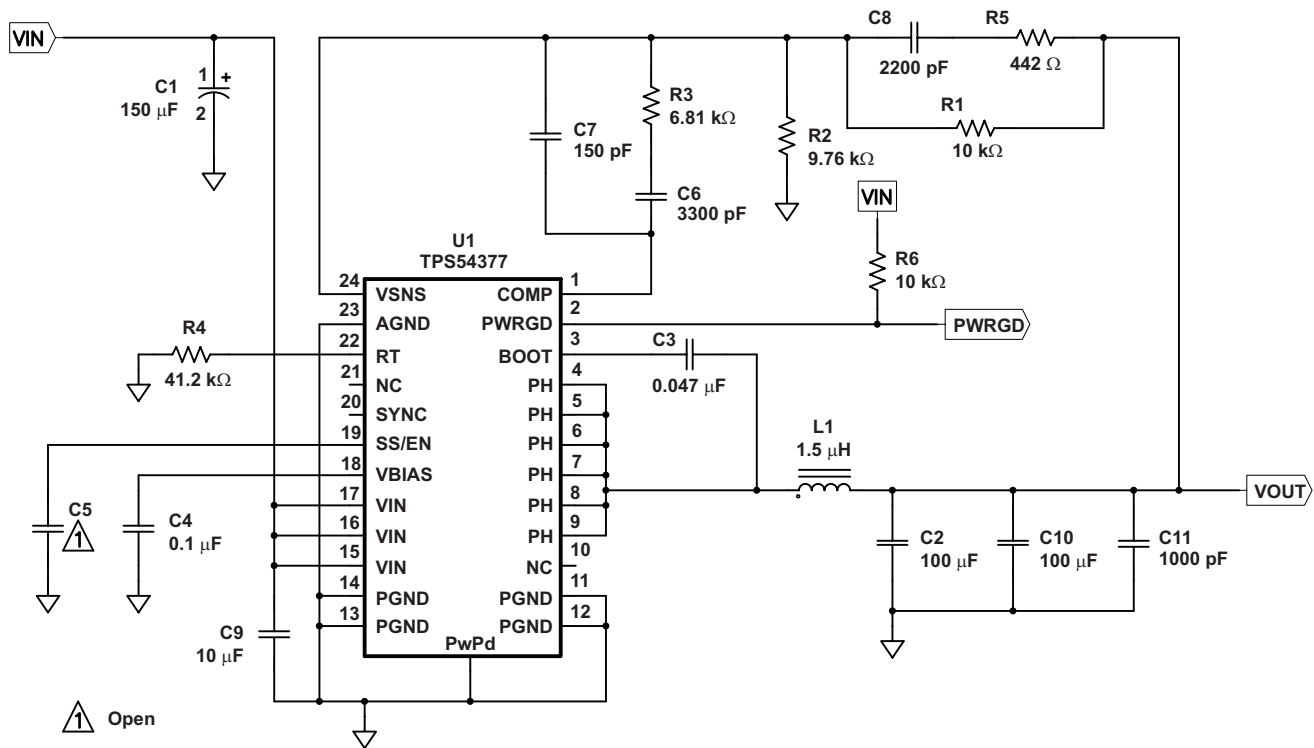

Figure 10. TPS54377 Schematic
- (1) Specified by design
- (2) Static resistive loads only
- (3) Specified by the circuit used in Figure 10.
Figure 10 shows the schematic diagram for a typical TPS54377 application. The TPS54377 (U1) provides up to 3 A of output current at a nominal output voltage of 1.8 V. For proper thermal performance, the power pad underneath the TPS54377 integrated circuit needs to be soldered well to the printed circuit board. The TPS54377 can be evaluated by replacing the TPS54317 on the TPS54317 EVM.